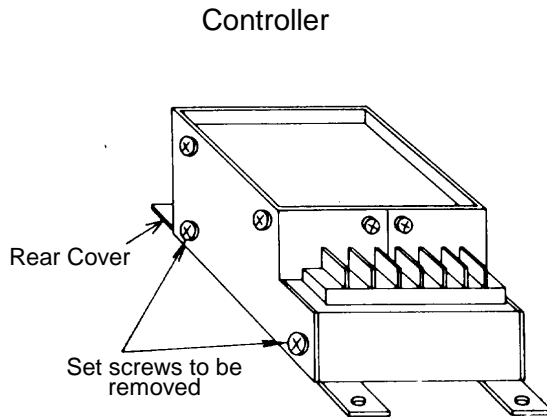

Figure 5.1
1. Remove both pair of set screws on both sides of the controller (Figure 5.1).